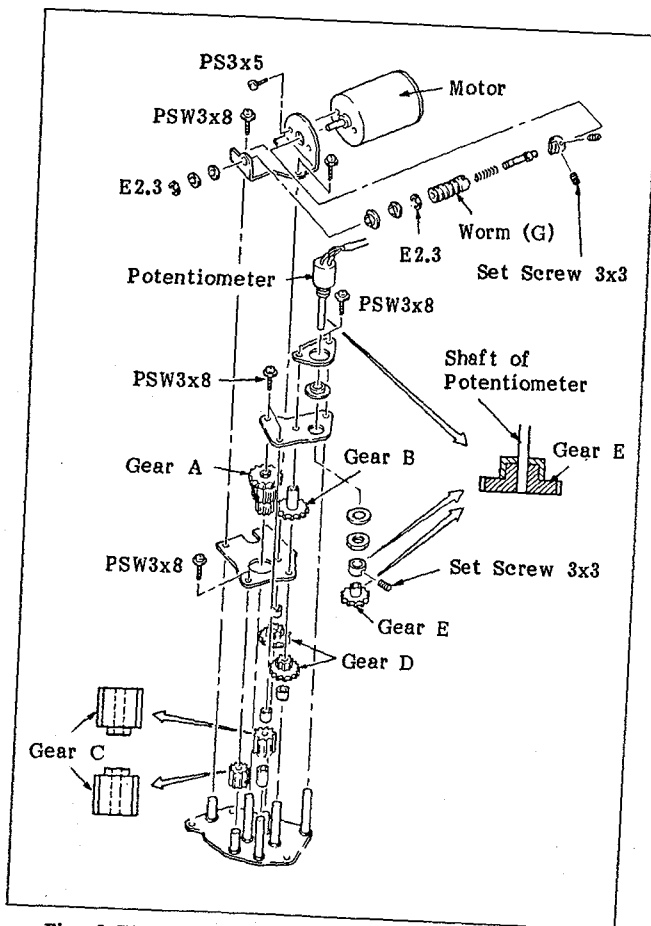

Fig. 6-72 Replacing the Components of the Gear Box Assembly
3. Replace the necessary components with new ones by referring to Figure 6-72.
**Note:** When the potentiometer or gear E has been replaced with a new one, attach it so that the head of the potentiometer shaft and the edge of gear E are on the same side, as shown in the detailed drawing of Figure 6-72.